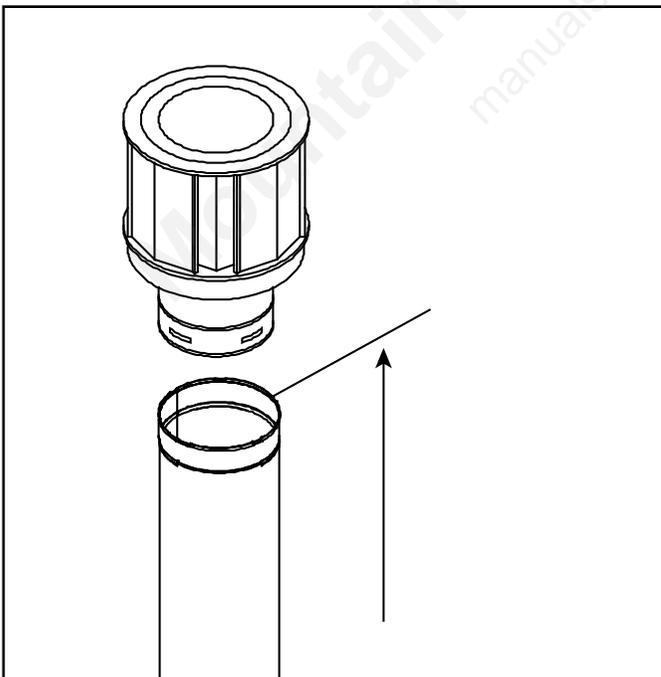

Figure 4.7. Measure to Top of Last Section of Pipe
- Vertical terminations are measured to top of last section of pipe. See Figure 4.7.
To replace the first 90° starter elbow with two 45° elbows, refer to Figure 4.7. All other 90° elbows can be replaced with two 45° elbows.